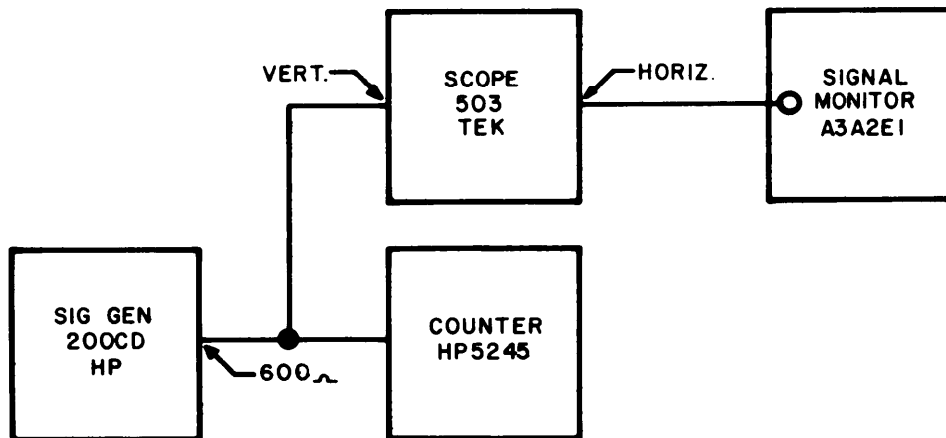

Figure 4-1. Equipment Setup for Sweep Rate Test 4.6.2
- 1) Connect the equipment as shown in Figure 4-1.